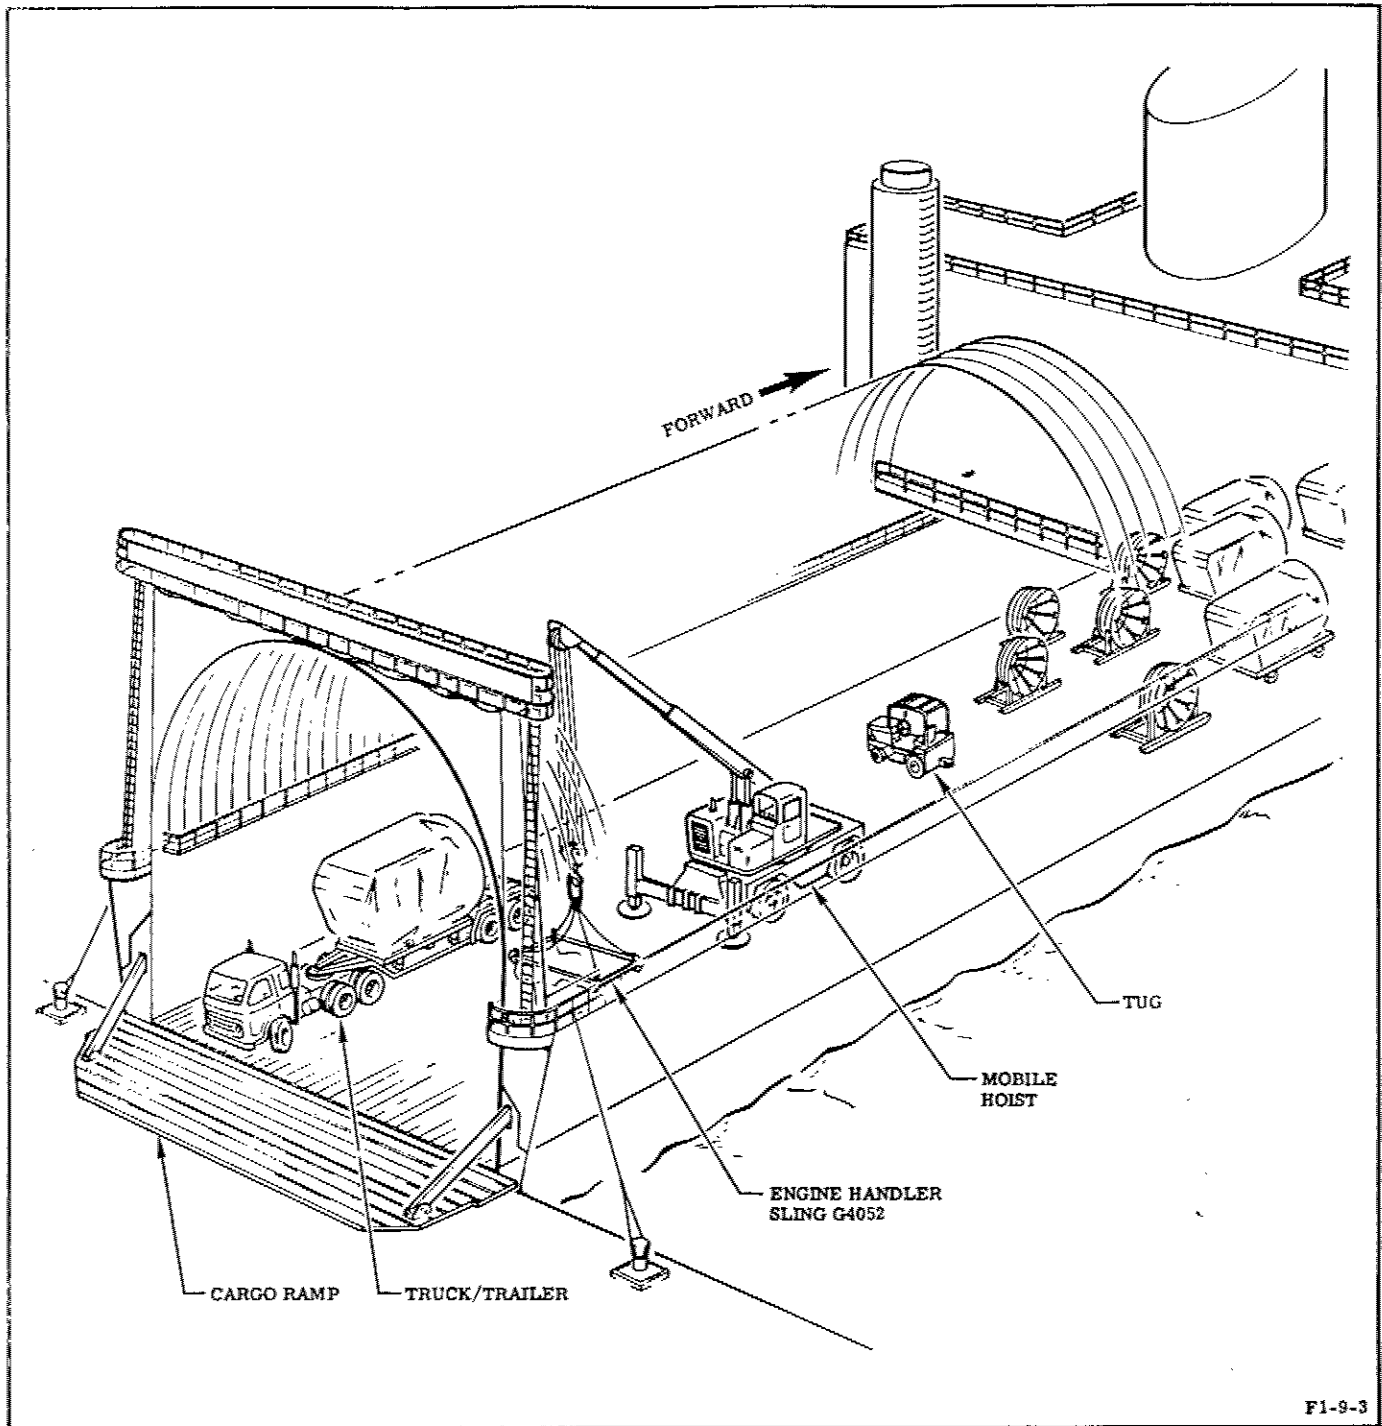

Figure 4-5. Loading Engine and Nozzle Extension Aboard Ship
4-13. **LOADING NOZZLE EXTENSION ABOARD SHIP.** (See figure 4-5.) The nozzle extension requires approximately 200 square feet of shipping area.
- 4-14. **LOADING ENGINE ABOARD SHIP.** (See figure 4-5.) The engine and handler require approximately 200 square feet of shipping area.
(See figure 4-5.)
4-19. OFF-LOADING NOZZLE EXTENSION FROM SHIP. (See figure 4-5.)